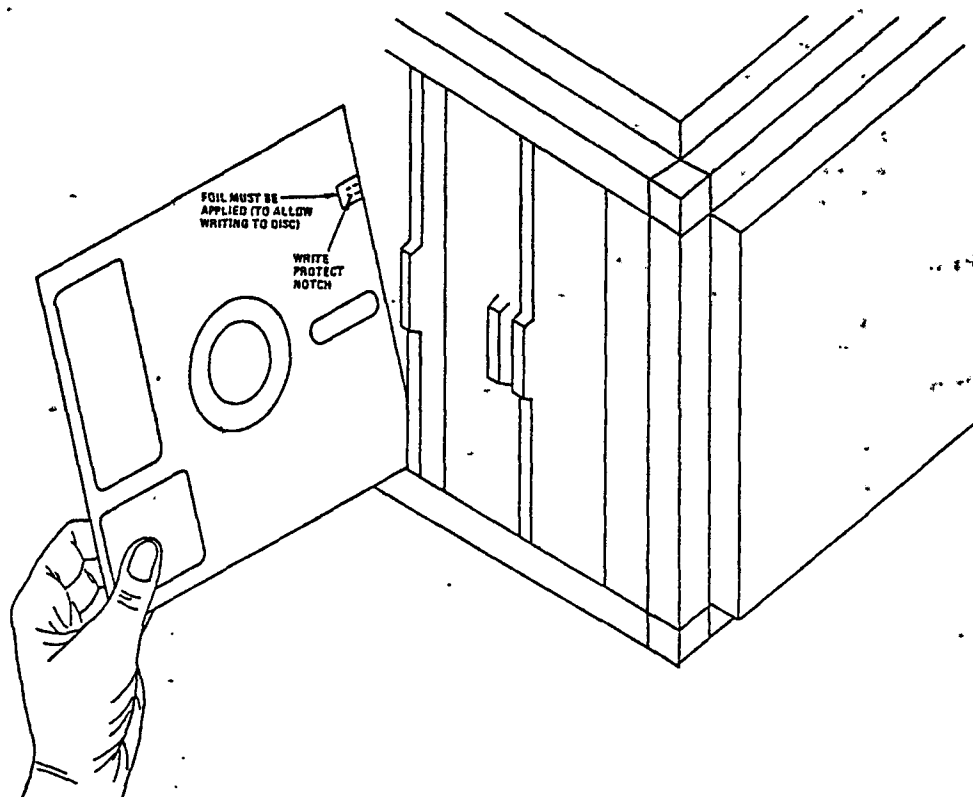

FIGURE 1.5 DISC INSERTION / REMOVAL TECHNIQUE
- e) Insert a QDOS System Disk in Drive #0 (the left-hand one) as shown in Figure 1.5. Push the disk all the way in until it clicks home. Latch the drive door firmly shut.